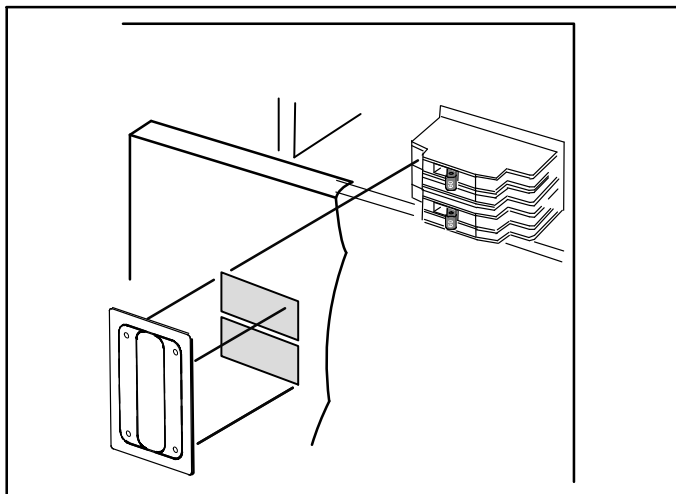

Figure 14. Typical Circuit Breaker Cover Installation
3. Position the breaker cover over the air handler circuit breaker opening (figure 14).